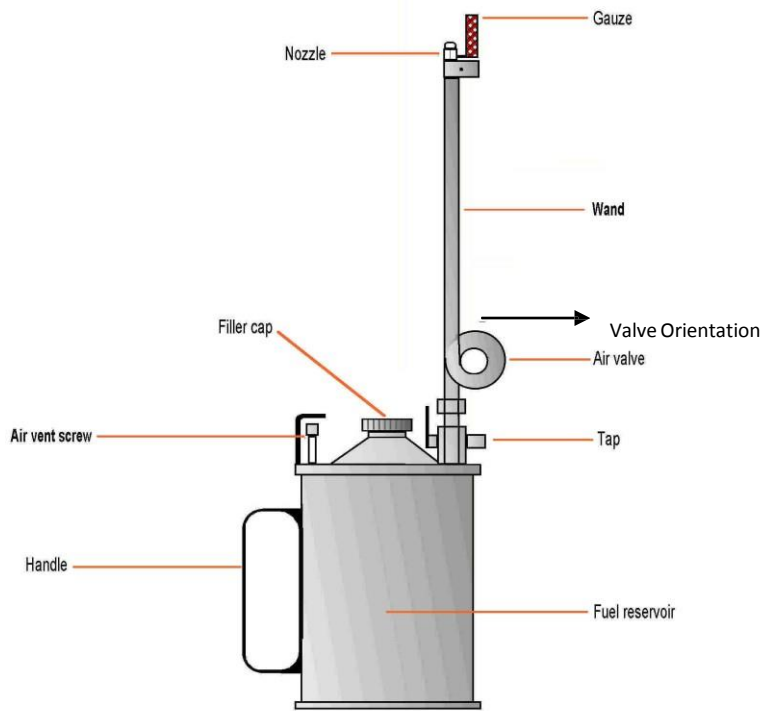

Figure 1 – Drip Torch Components
Safe Working Distances	<ul style="list-style-type: none"> Do not fight the fire within 25m of the power line zone (fig 1) If the smoke plume impinges on the power lines do not direct a water stream inside the zone Water streams of no more than 1.5m in height can be directed inside the zone provided the smoke is not impinging on the power lines
1. A drip torch is a device which holds, distributes and ignites a fuel mixture in a controlled manner in order to deliberately ignite surface fuel loads (see Figure 1). This SOP details the safe use of drip torches in support of bushfire-fighting operations.
Prepare Drip Torch for Task	<ul style="list-style-type: none">• Ensure adequate fuel to complete the burn - fill with pre-mixed fuel only¹ in a location isolated from ignition sources using a funnel• DFES Operations Authorised Pre-Mix<ul style="list-style-type: none">○ Three parts (75%) Diesel : One Part (25%) Petrol• Check tap is functioning• Check filler cap is secure, seals correctly and 'O' ring is in place• Ensure drip torch air valve is orientated away from handle as per Figure 1<ul style="list-style-type: none">○ Drip Torch Components
During Operational Tasking	<ul style="list-style-type: none"> • Reject drip torches that leak from the filler cap, tap or wand connection • Do not place the drip torch where it is exposed to fire or in unburnt fuel in the path of a fire. • Ensure drip torch air valve is orientated away from handle as per Figure 1 – Drip Torch Components